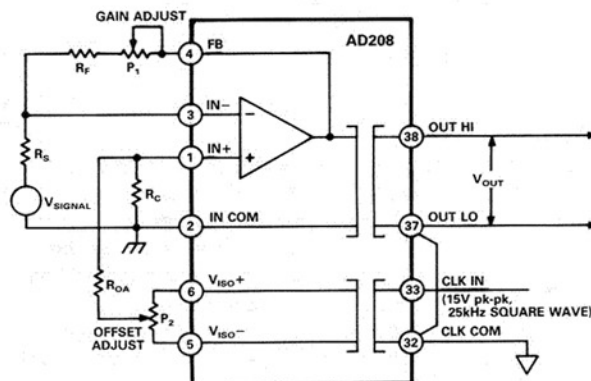

Figure 35. Input Adjustments for the Inverting Mode of Operation
**Offset Adjustment.** Figure 35 shows the suggested input adjustment connections when the isolator's input amplifier is configured for the inverting mode of operation. Here the offset adjustment potentiometer  $P_2$  nulls the voltage at the summing node. This method may be preferred over current injection since it is less affected by any subsequent gain adjustments. A 100 k $\Omega$   $P_2$ , 50 k $\Omega$   $R_{OA}$  and a 100  $\Omega$   $R_C$  should provide an offset adjustment range (Referred to Input) of about  $\pm 15$  mV.
**Gain Adjustment.** Figure 35 also shows the suggested gain adjustment circuit. In this circuit, the gain adjustment is made in the feedback loop using potentiometer  $P_1$ . The adjustments will be effective for all gains in the 1 to 1,000 V/V range.